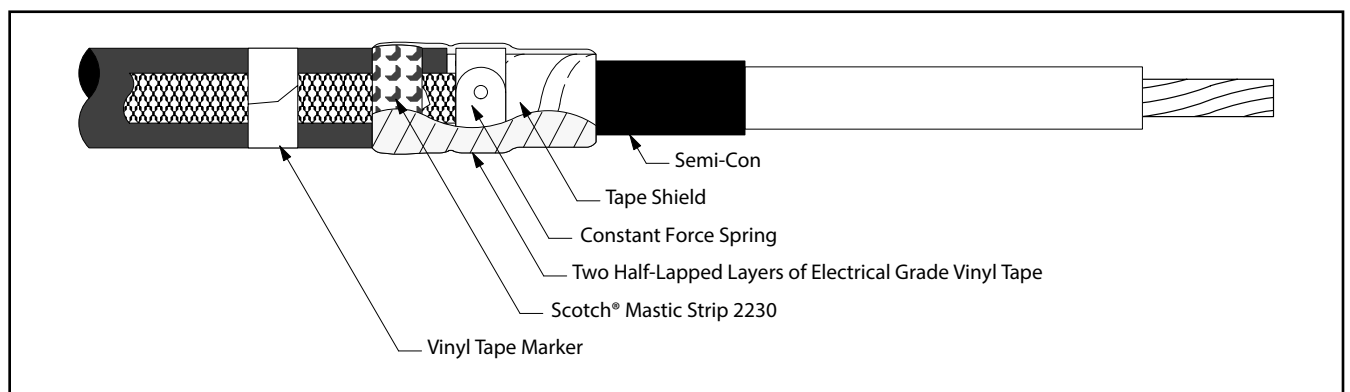

Figure 5
- 3.5 Wrap two highly stretched half-lapped layers of electrical grade vinyl tape around mastic seal, constant force spring and exposed tape shield (*Figure 5*).